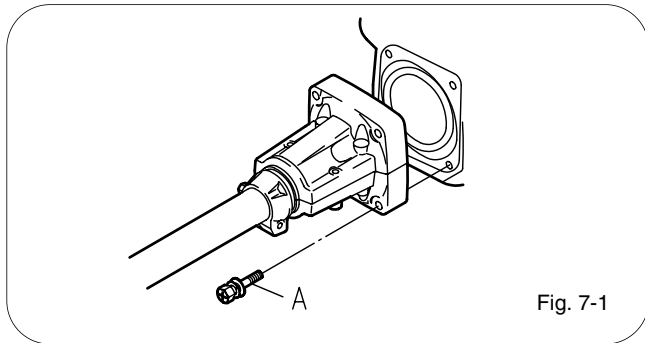

Fig. 7-1
1. Assemble the engine onto the shaft housing. Make sure the shaft is fully and correctly up to the shank, then tighten the four screws A. (Fig. 7-1)